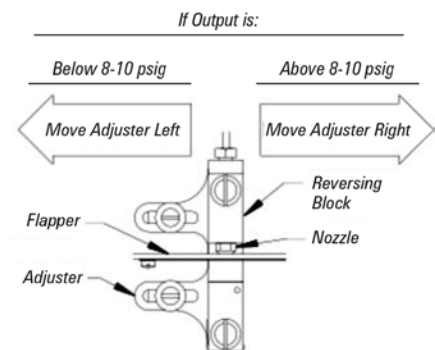

Figure 7 Direct-Acting Controller Span Adjustment
- Adjust the controller span by loosening the two screws and moving the CALIBRATION ADJUSTER a small distance as indicated in Figure 7.